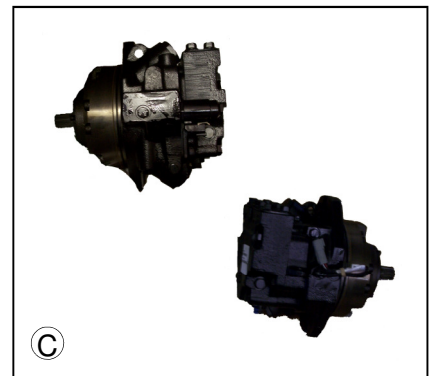
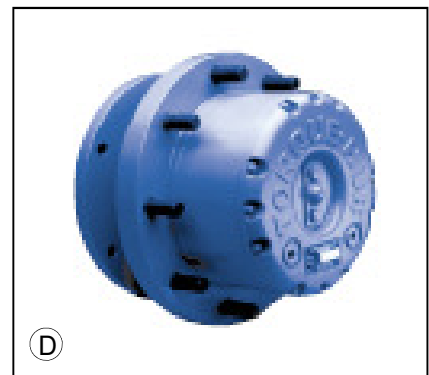

FIG. 4.15-3
FIG. 4.15-4
**WHEEL MOTORS AND WHEEL HUBS**–The STS 10T's all-time four wheel drive system consists of the Sauer-Danfoss hydrostatic wheel motors (fig. 4.15-3) and the planetary gear reduction hubs (wheel hubs) (fig. 4.15-4).